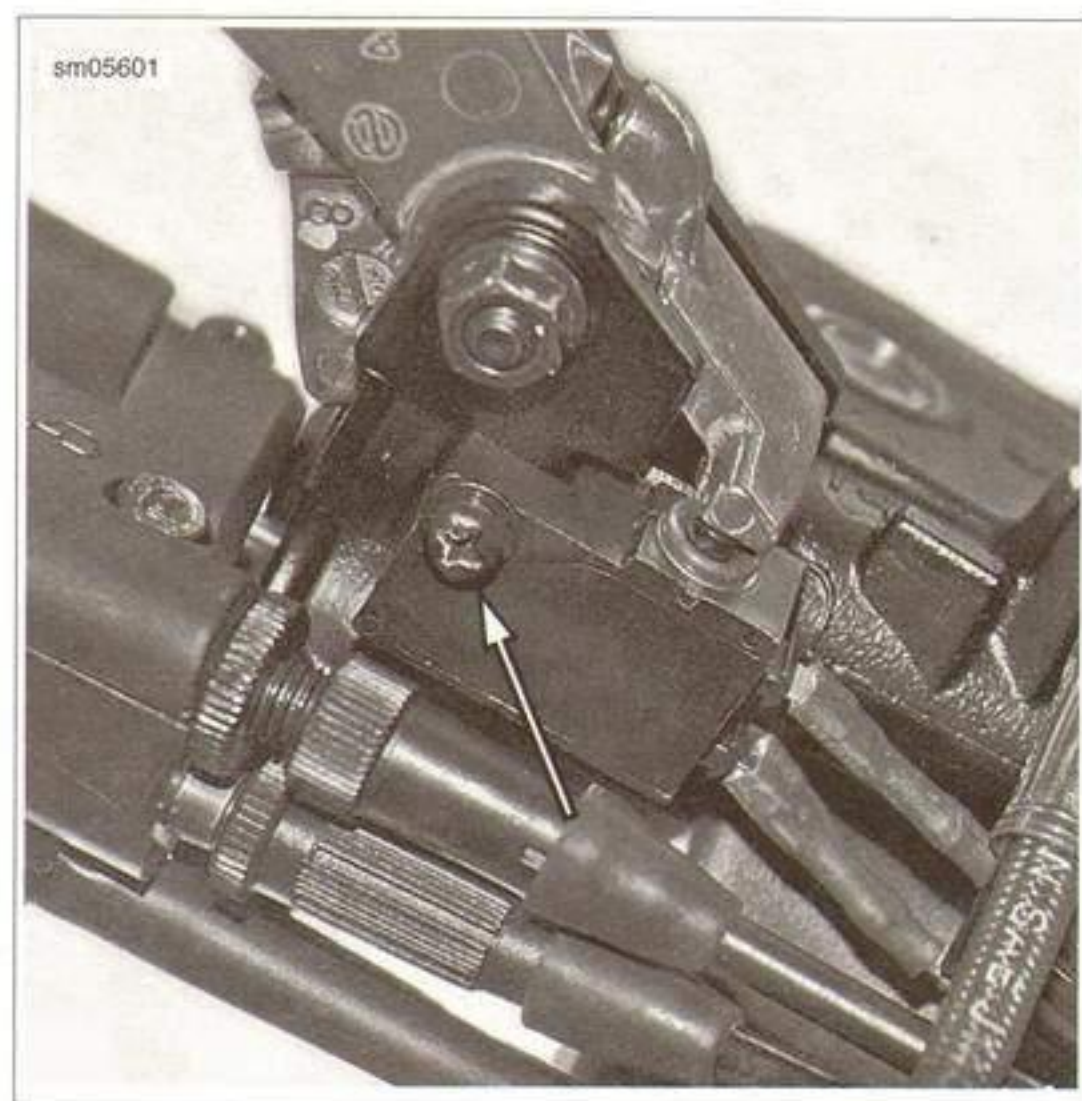

Figure 7-76. Front Brake Light Switch Fastener
1. See Figure 7-76. Remove fastener and washer to detach front brake light switch from front master cylinder.